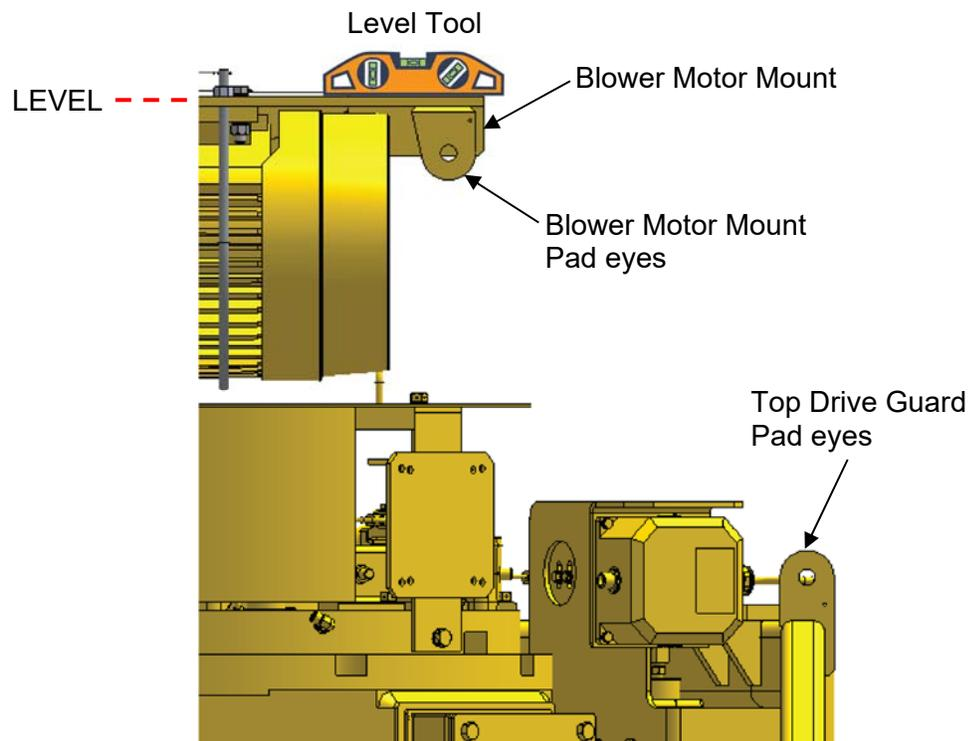

Figure: 4.7 Top Drive in Vertical Orientation
1. Prior to installing the blower support arm assembly, ensure the top drive is in a vertical orientation and that the blower motor mount is parallel to the ground. Verifying whether the surface is level by placing a level tool on the blower motor mount as shown in Figure 4.7.